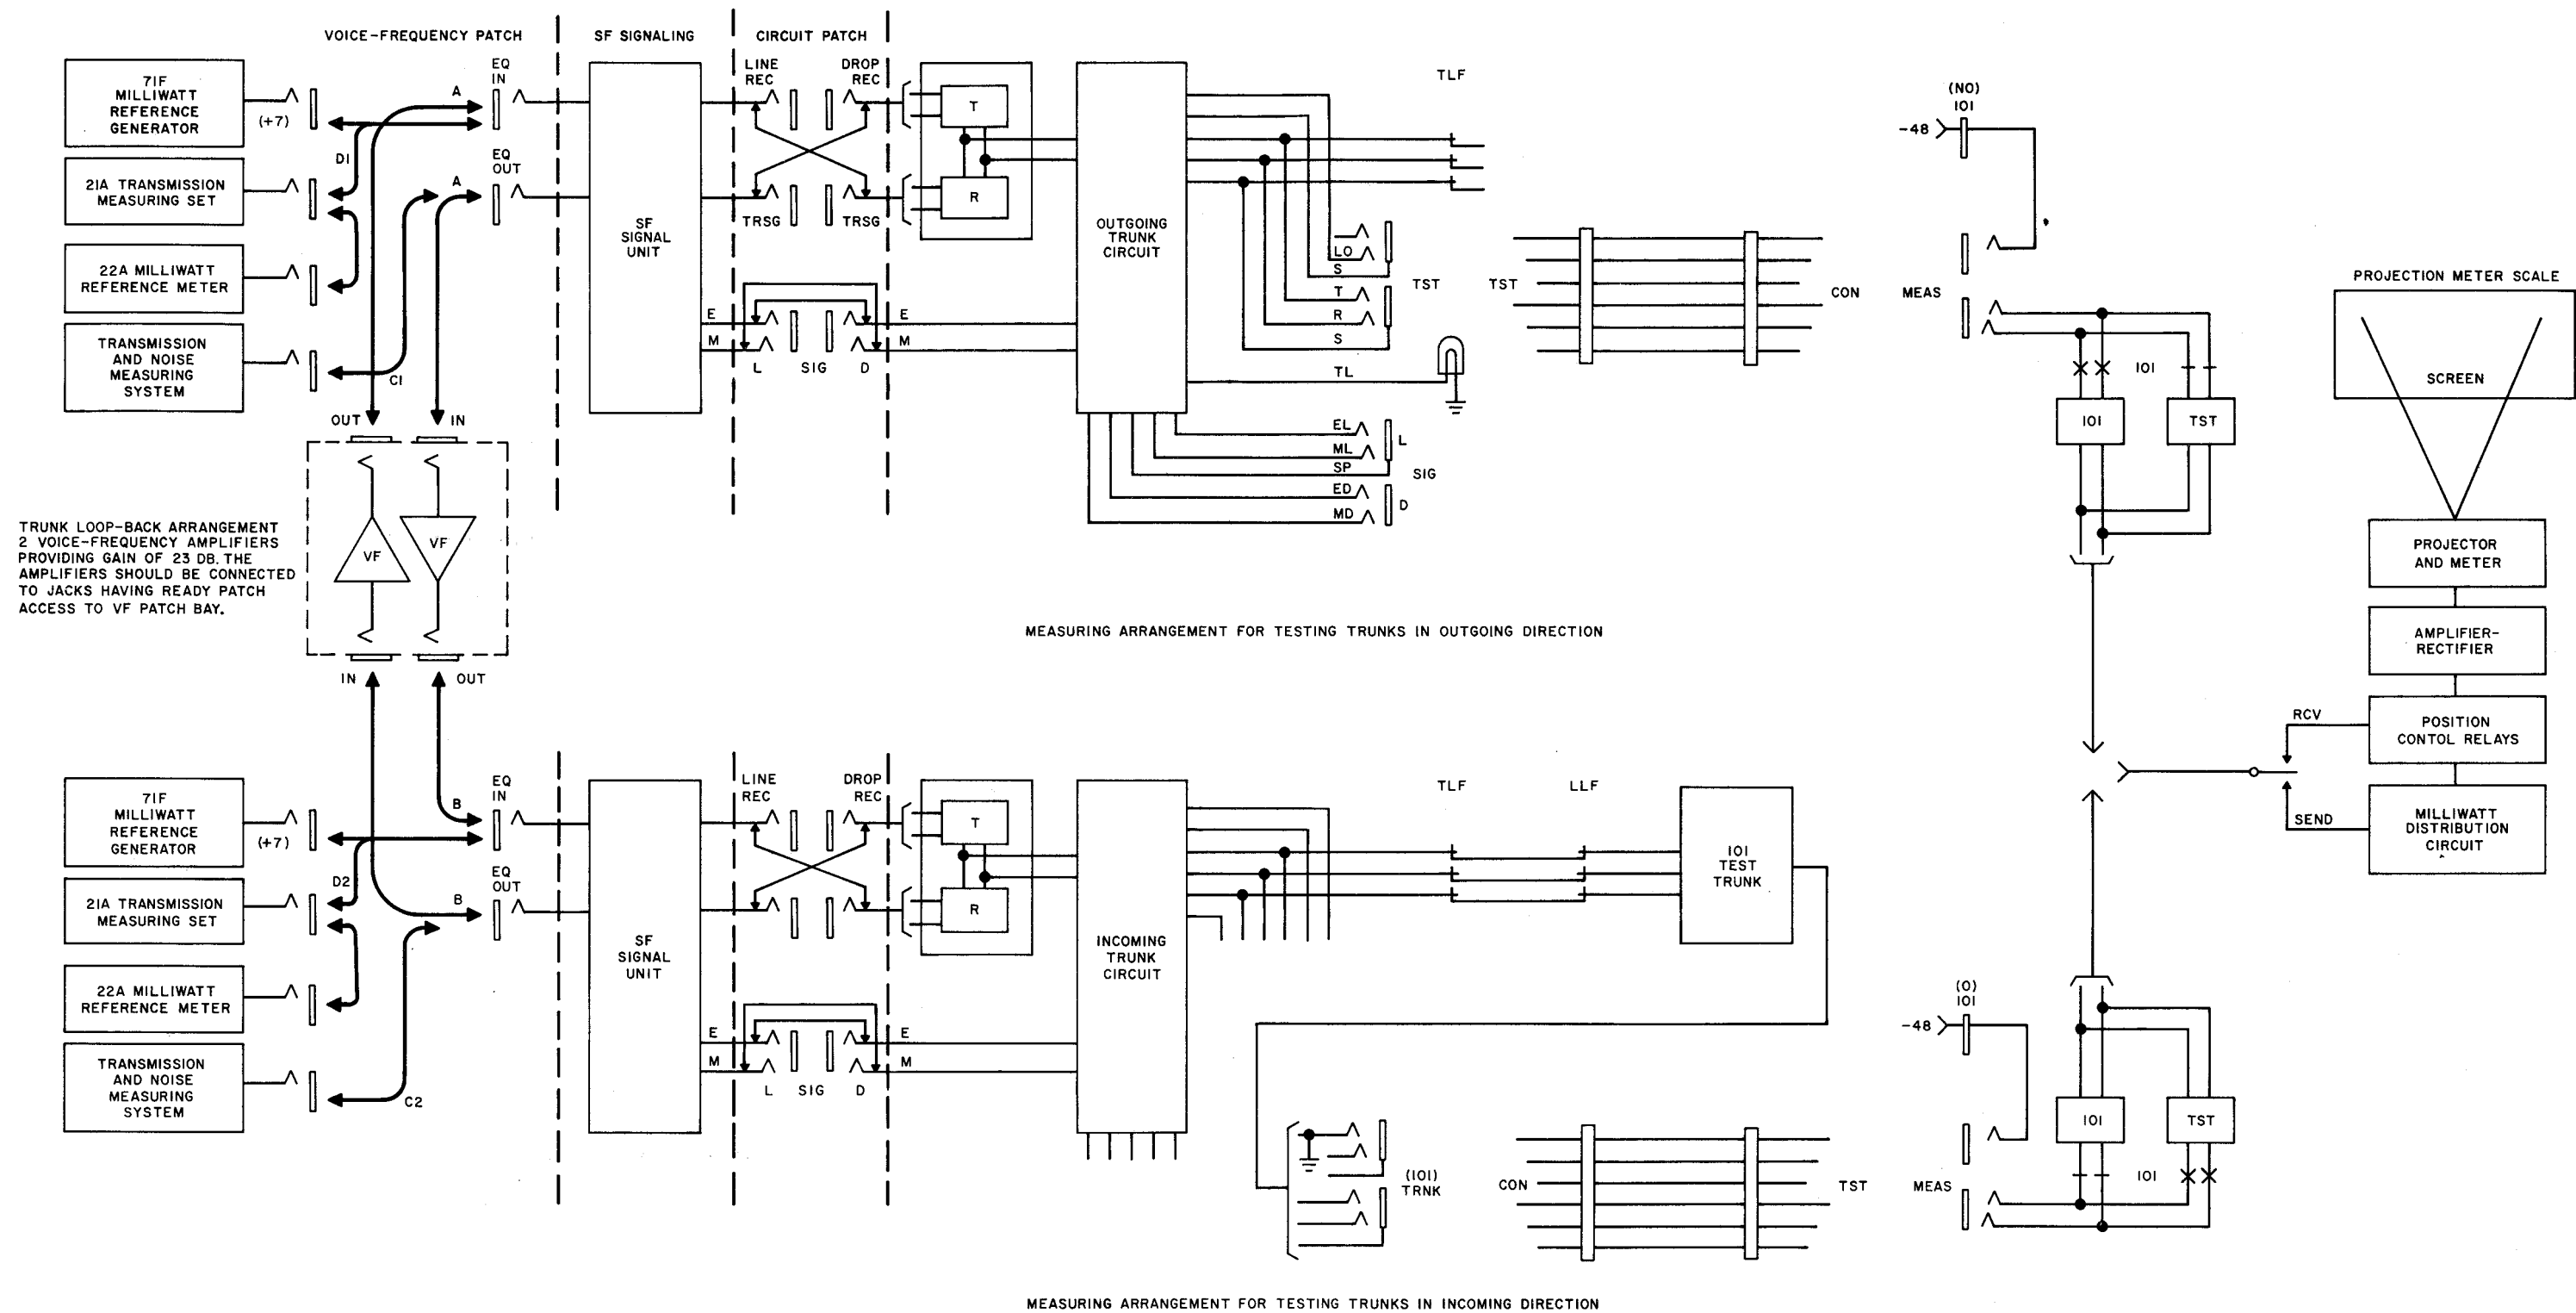

Fig. 1 — Measurement and Adjustment of Office Losses
1.11 Test connections for making office wiring loss measurements on trunks in outgoing and incoming directions are shown in Fig. 1. Also shown is a loop-back arrangement which may be used for establishing correct connections through the switches without involving the distant terminal. This arrangement is used only for establishing the proper circuit and is not used during measurements. If such an arrangement is not available, assistance from the distant end will be required in establishing the circuits for measurements.
1	<p>Note: If tests and adjustments are to be made on trunks already in service, the trunks should be removed from service at each end while this procedure is being performed. Terminate the carrier channels at the MOD IN and DEMOD OUT jacks with 600-ohm terminations.</p> <p>At VF Patch Bay: Connect A and B patches shown in Fig. 1 making a loop-back circuit within the office.</p>
5	Patch EQ OUT jack of outgoing trunk under test to TST-600 jack of transmission measuring system (C1 patch, Fig. 1).
8	At VF Patch Bay: Remove the patches previously made to the EQ IN and EQ OUT jacks of the outgoing trunk under test. Terminate the EQ OUT jack in 600 ohms. Patch the EQ IN jack to the calibrated $1000 \bullet +7 \bullet 600$ jack or to the OSC OUT jack (D1 patch, Fig. 1). If oscillator is used, adjust output to 1000 cycles at $+7$ dbm.
1	<p>At VF Patch Bay: Connect A and B patches shown in Fig. 1 making a loop-back circuit within the office.</p>
3	<p>At VF Patch Bay: Remove A and B patches made in Step 1. Terminate EQ IN jack of incoming trunk under test in 600 ohms.</p> <p>Connect patch between EQ OUT jack of incoming trunk and TST-600 jack of transmission measuring system (C2 patch, Fig. 1).</p>
8	<p>Connect EQ IN jack of incoming trunk under test to 1000•+7•600 jack or to OSC OUT jack (D2 patch, Fig. 1). If the oscillator is used, adjust the output to 1000 cycles at +7 dbm using 22A reference meter.</p> <p>At Testboard: Operate SEND-RCV key to RCV. Read received signal level on meter and determine loss.</p> <p>If the loss just determined differs from the computed value (EML), substitute an 89-type resistor in the R pad as required to obtain the EML, <math>\pm 0.13</math> db. If a change in level greater than 1 db is required, investigate the possibility of equipment deficiencies before making the change.</p>